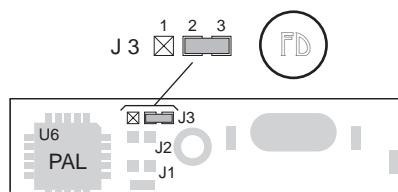

Figure 2-1. CM7100 Header J3 Configured for Special EPROM
2. Check header J3 on the micro-processor side of the CM7100. The surface-mounted jumper should connect pins 2–3 to reflect the 128K memory of the special EPROM. This factory default setting is shown in Figure 2-1.
2. Check header J3 on the microprocessor side of the CM7100. The surface-mounted jumper should connect pins 2–3 to use the Development Board. This factory default setting is shown in Figure 2-1.
4. Check header J3 on the microprocessor side of the CM7100. The surface-mounted jumper should connect pins 2–3 to use the Development Board. This factory default setting is shown in Figure 2-1.